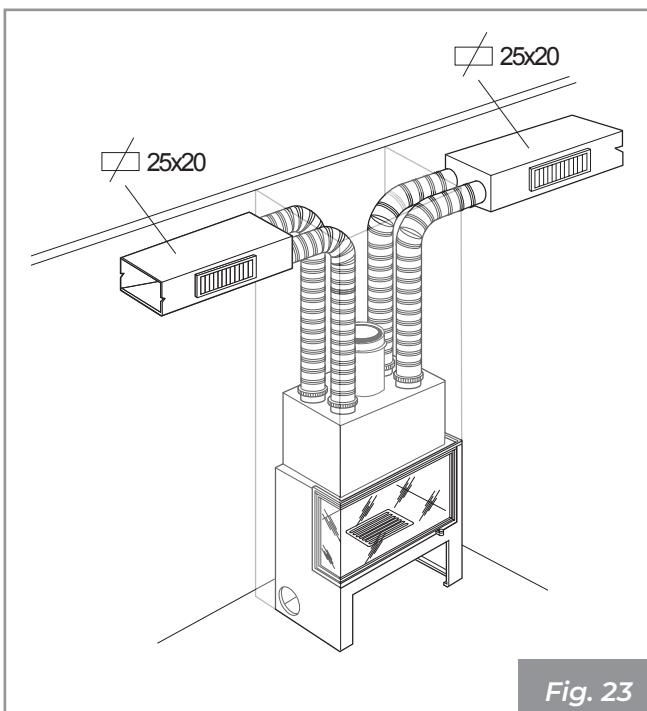

Fig. 23
- Smooth metal pipe - length up to 14 m on double duct (Fig. 23).